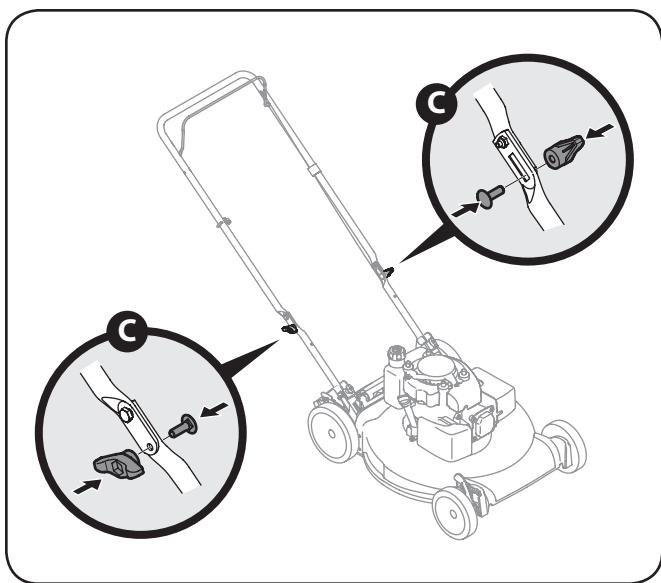

Figure 3-5
- Reattach wing nuts and carriage bolts removed earlier into lower holes of handle as shown in Fig. 3-5.